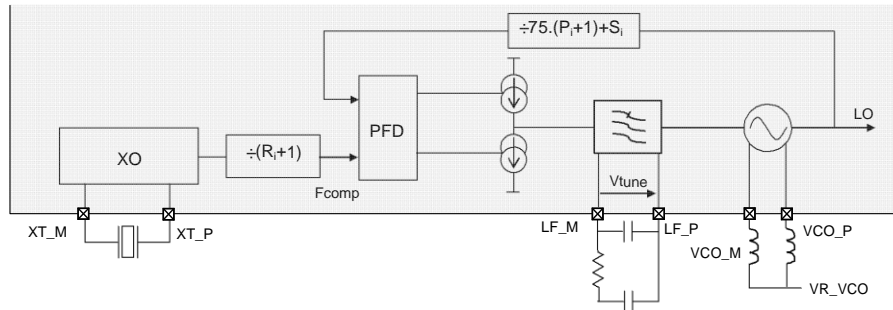

Figure 5: Frequency Synthesizer Description
The crystal oscillator (XO) forms the reference oscillator of an Integer-N Phase Locked Loop (PLL), whose operation is discussed in the following section. Figure 5 shows a block schematic of the RFM63 PLL. Here the crystal reference frequency and the software controlled dividers R, P and S determine the output frequency of the PLL.
As shown in Figure 5 the PLL structure comprises three different dividers, R, P and S, which set the output frequency through the LO. A second set of dividers is also available to allow rapid switching between a pair of frequencies: $R1/P1/S1$ and $R2/P2/S2$. These six dividers are programmed by six bytes of the register `MCPParam` from addresses 6 to 11.